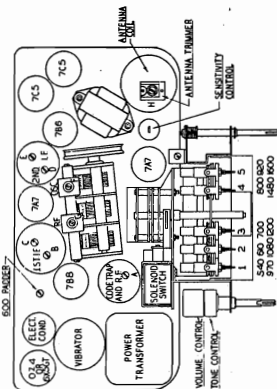

Fig. 5.
NOTE: This receiver is equipped with an adjustable sensitivity control located on the top of the chassis as shown in Fig. 5. The control is set at the factory to a position which gives sensitivity of 8 microvolts at 1 watt output. It is found advisable to hold the receiver at this level as any higher sensitivity may result in excessive background noise and unless laboratory equipment is available for measuring sensitivity, it is not advisable to change this setting.
L.F.: The receiver must be in one of the automatic positions. The signal generator is set at 455 K.C. and fed through the special Zenith antenna dummy to the receiver. The code trap adjustment screw A (see Fig. 5) is adjusted for maximum response. The adjustment screws B, C, D and E are then adjusted in order for maximum response on the output meter (See Fig. 5). The code trap A is then adjusted for minimum response.
R.F.: The receiver is returned to manual and the tuning control is rotated until the condenser plates are out of mesh (1600 K.C.). Set the signal generator to 1600 K.C. and adjust the 1600 K.C. osc. trimmer F (See Fig. 5) for maximum response.
Set the signal generator to 1400 K.C. and rotate the tuning control until a signal is heard and adjust the R.F. trimmer G and antenna trimmer H (See Fig. 5) for maximum response.
Set the signal generator to 800 K.C. and rotate the tuning control until the signal is heard. The condenser gang is then rocked slightly while adjusting the 800 K.C. padder I (See Fig. 5) to maximum reading on output meter.